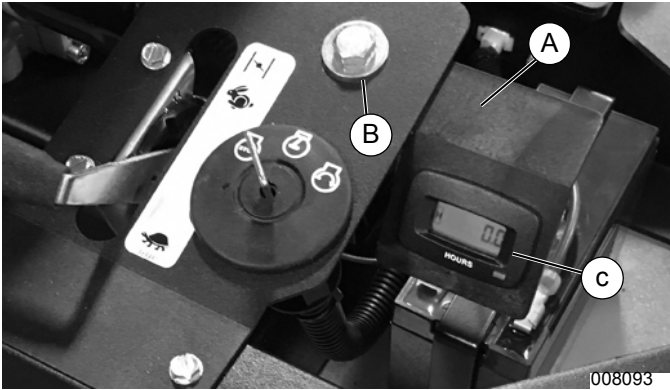

Figure 2-9. Maintenance Meter Installation
1. See Figure 2-9. Align slot in mounting bracket (A) with mounting hole in control board, and secure mounting bracket to control board with 5/16-18 x 1" bolt and 5/16" locknut (B).
2. Insert meter (C) into the bracket opening. Press the meter firmly to ensure the retaining clips on the sides of the meter have snapped into place.